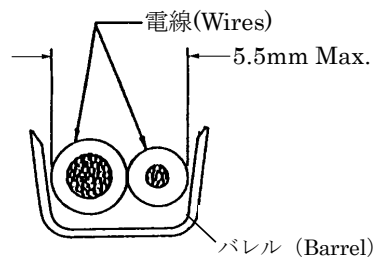

Fig.4
1. 2本圧着の場合は電線を Fig.4 の様に配置すること。
When to make a two-wire crimp, place wires as shown in Fig.4